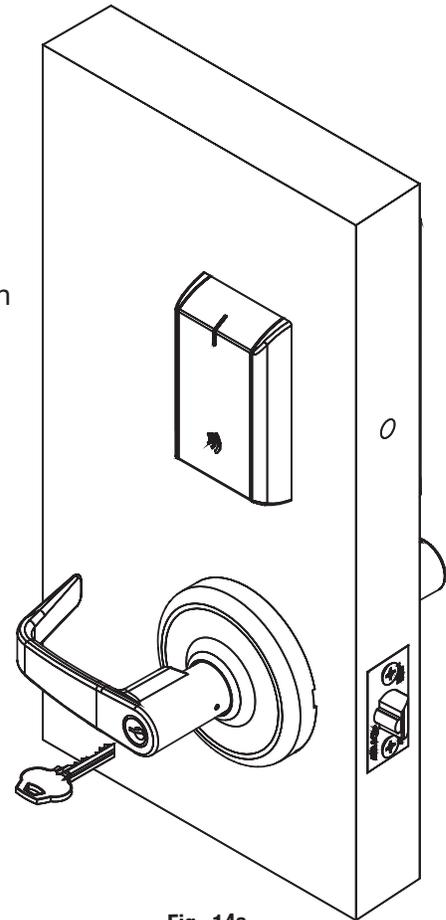

Fig. 14a
- a. Insert key into cylinder and rotate (Fig. 14a).